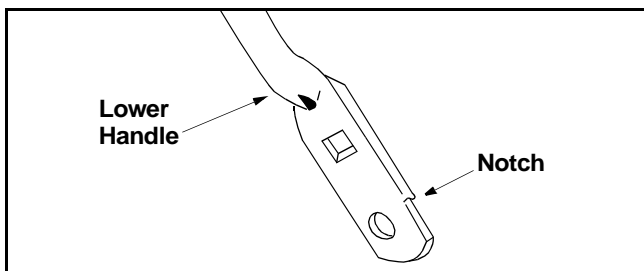

Figure 11
- Turn the lower handle around so the notches on the bottom of the lower handle are facing forward as shown in Figure 11.